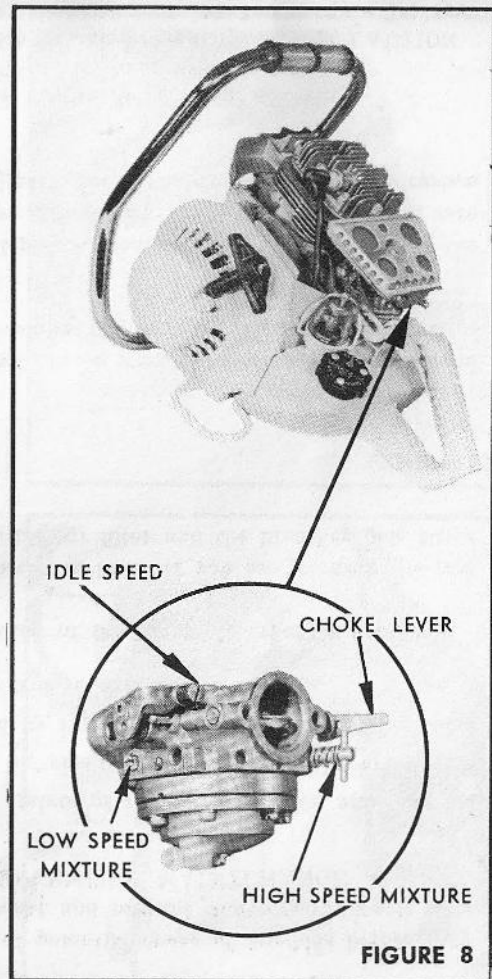

FIGURE 8
1. Idle speed adjusting screw controls the idling speed only (figure 8). To adjust, back the screw off approximately two turns, then turn slowly to the right until the throttle arm just starts to move, then give an additional 1-1/2 turns to the right.
2. High speed adjusting screw controls fuel mixture when the throttle is open (figure 8). To adjust, shut off gently, then open 1 turn. This may vary slightly for individual chain saws under full load.
3. Slow speed adjusting screw controls the fuel mixture at idling speeds (figure 8). To adjust, shut off gently, then open 3/4 to one full turn. This may change slightly according to the individual chain saw and operator.